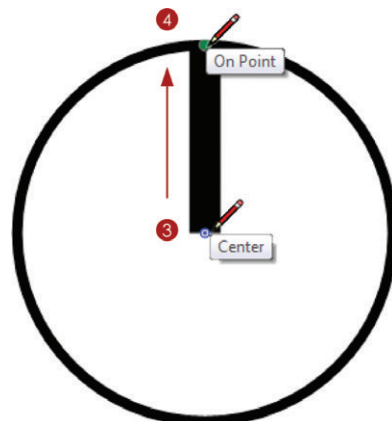

Figure 13.18 Add a line to define the north direction.
4. Activate the Line tool and set the stroke width to 3. Click once on the center point of the circle to start the line (Figure 13.18).